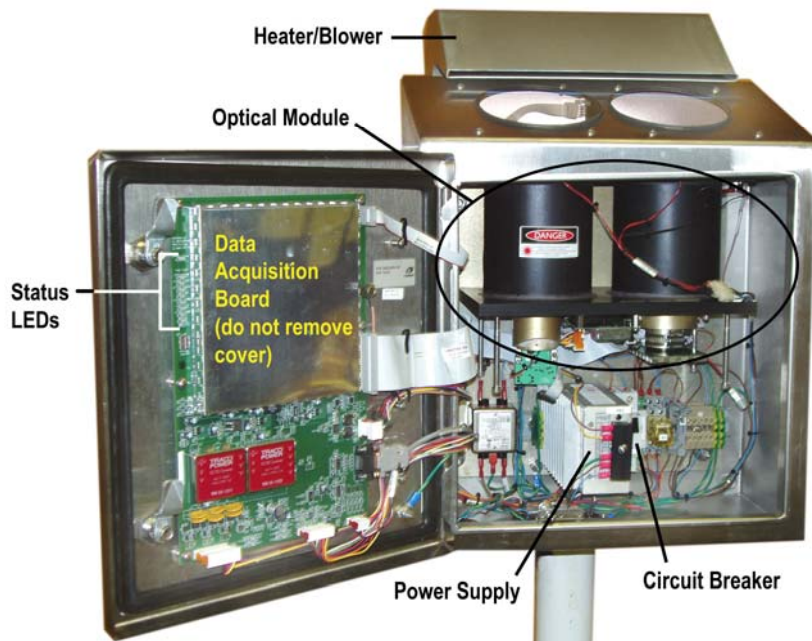

Figure 1. Ceilometer Components
1. Set the main circuit breaker in the 8339 to the OFF position (see Figure 1).
also be placed in the lower right area of the Ceilometer enclosure (Figure 1) with the indicator paper above the desiccant to be readily visible.